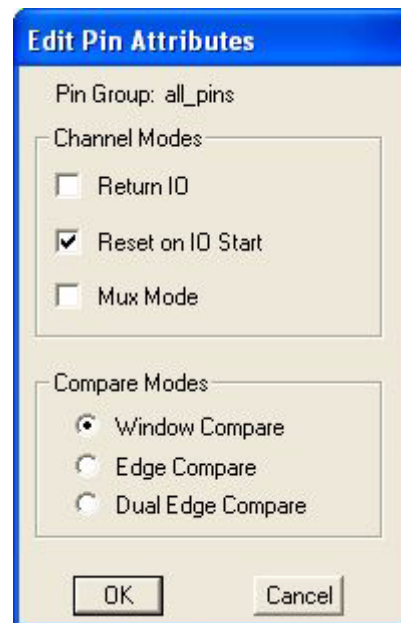

Figure 7-15. Edit Pin Attributes Dialog Box
- Double-clicking anywhere else in the pin group or pin area displays an Edit Pin Attributes dialog box that allows you to change the channel mode and the pin mode (similar to Figure 7-15).